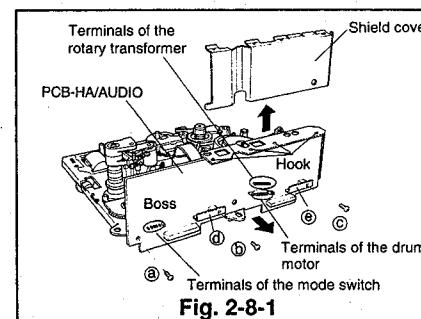
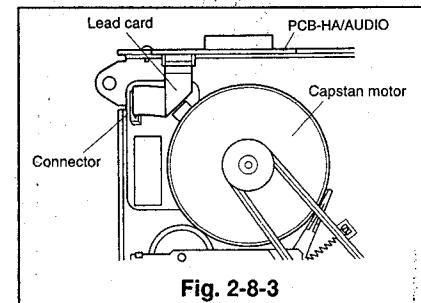

Fig. 2-8-1
Fig. 2-8-3
- ① Unfasten the hook and raise the head amp shield cover shown in Fig. 2-8-1 to remove it.
- ② Unsolder the terminals of the mode switch, the drum motor, and the rotary transformer shown in Fig. 2-8-1.
- ⑤ Reverse the deck and disconnect the lead card, connecting the PCB of the capstan motor and the PCB-HA/AUDIO. (Refer to Fig. 2-8-3.)
- ⑥ Remove the three screws (Ⓐ, Ⓑ and Ⓒ) and slowly pull the PCB-HA/AUDIO in the direction shown by the arrows. (Refer to Fig. 2-8-1.)
- ① Insert the terminals of the mode switch, the drum motor, and the rotary transformer, and the boss, adjacent to the mode switch, in the matching holes on the PCB-HA/AUDIO and secure the PCB-HA/AUDIO with the three screws (Ⓐ, Ⓑ and Ⓒ) in the order, Ⓐ→Ⓑ→Ⓒ. (Refer to Fig. 2-8-1)
- ② Solder the pins mentioned in Item ①.
- ③ Reverse the deck and reconnect the lead card connecting the PCB of the capstan motor and the PCB-HA/AUDIO. (Refer to Fig. 2-8-3) Take care not to fit lead card upside down.